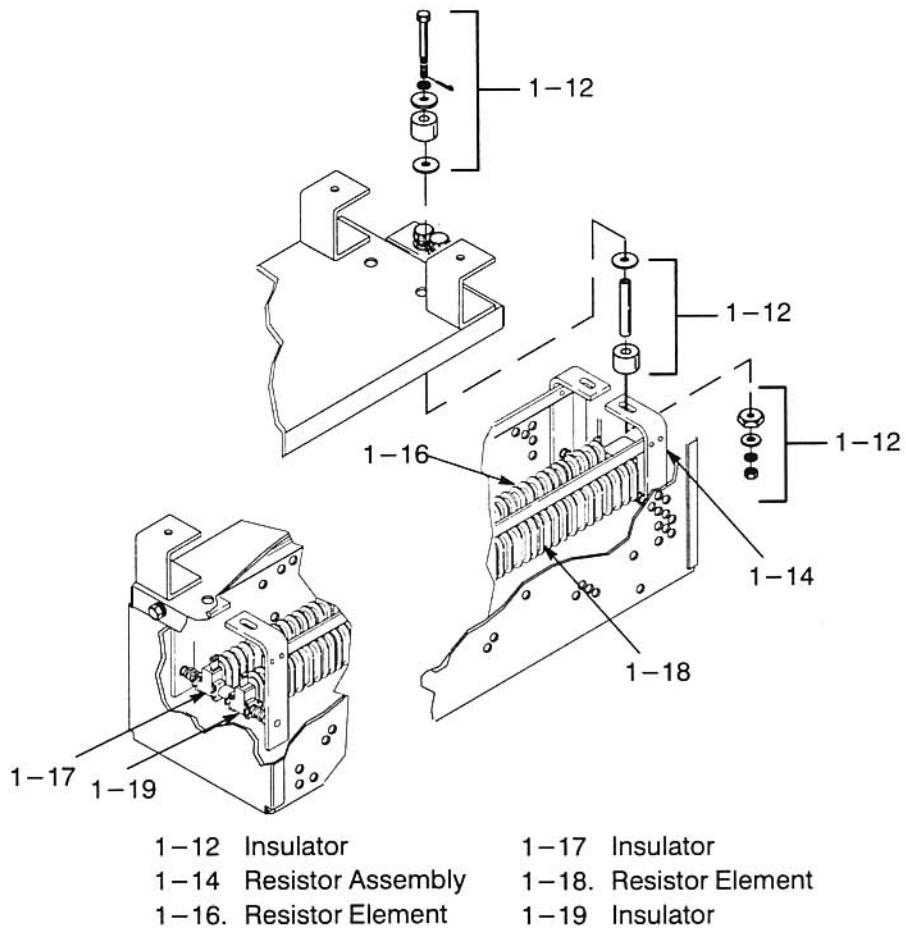

Figure 7-187 Inspection/Check Charging Resistor
- a. Inspect insulators (1-12, 1-17, 1-9, Figure 7-187) for cracks or breakage. If damaged replace.
- a. Remove any loose debris from resistor assembly (1-14, Figure 7-187).